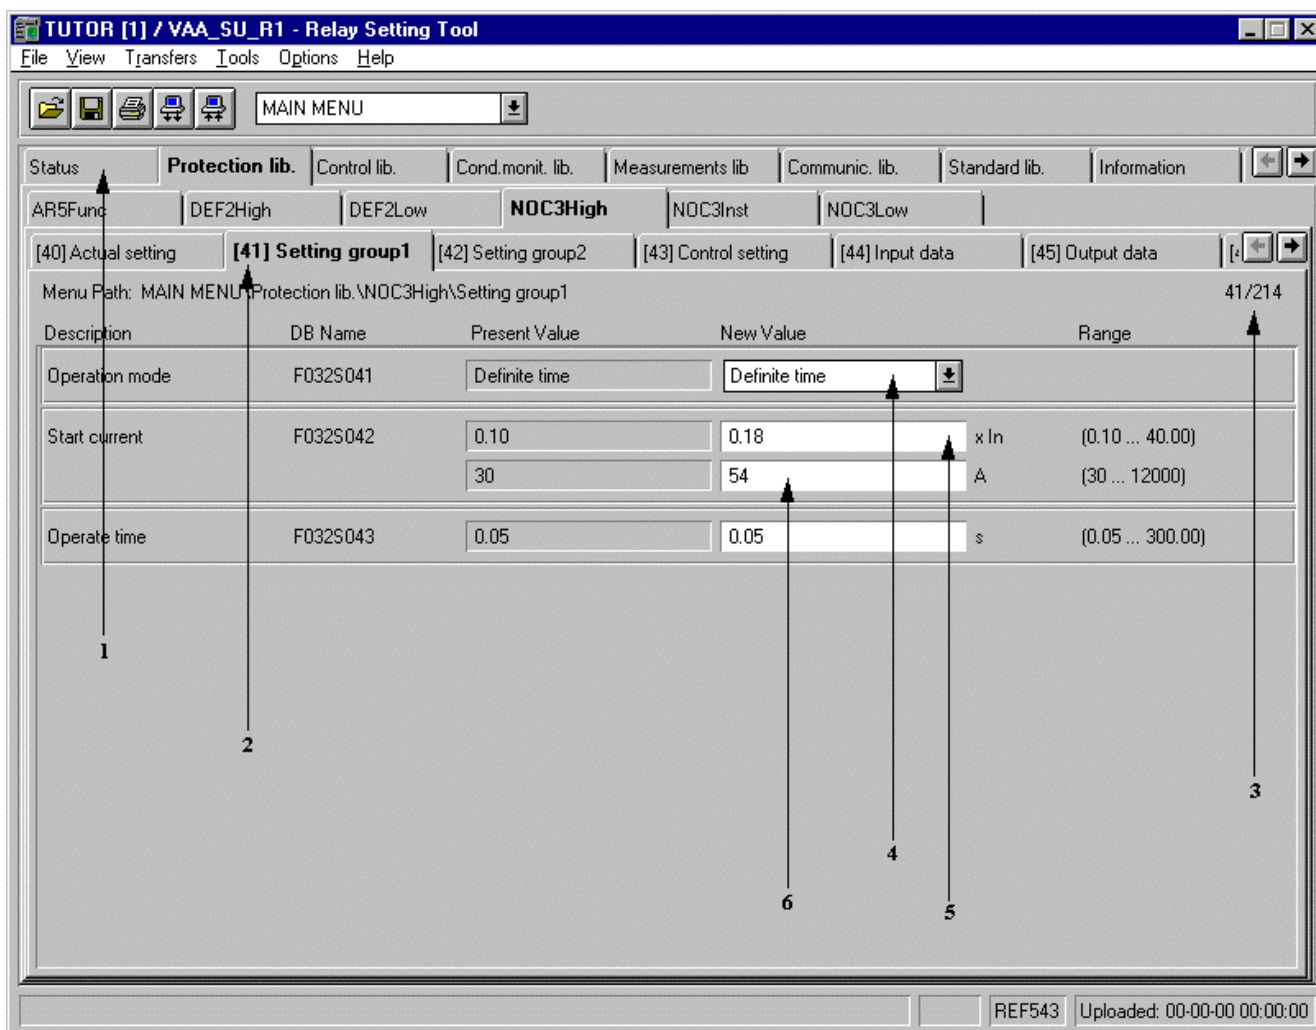
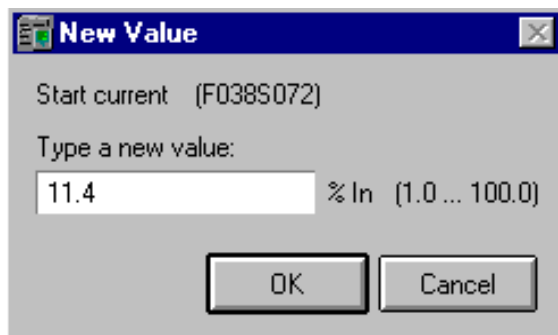

Figure 53. Relay Setting Tool Main View
Figure 54. The input field of the Setting Tool
View Transducers	Nominal values can be viewed in the View Transducers dialog. These nominal values are used when calculating primary values for certain parameters (Figure 53, note 6). Values are defined in the Object Configuration Tool, please refer to SM/RED Configuration Manual (1MRS751392-MEN).
When a menu from the Relay Setting Tool is selected, a menu hierarchy of the functions (Figure 53, note 1) available for the relay unit is displayed in the tool area. Each function holds several tabbed pages of configurable parameters.
The Relay Setting Tool Main View contains tabbed pages. The hierarchy and the number of these tabbed pages depends on the selected relay. A tabbed page can be selected by clicking the wanted page with the mouse, e.g. page 41 (see note 2 in Figure 53). Note 3 in Figure 53 indicates the last page (214).
If there are multiple choices, the suitable alternative can be selected from the drop-down combo box (see note 4 in Figure 53). If the relay unit is protected by a password, the password is asked before the changes are downloaded. The dialog in which a new value can be entered (Figure 54) can be brought out by pressing the left mouse button on the field (note 5 in Figure 53) and by pressing any key.
- Note 4 in Figure 53: The value changes color when selected. A suitable alternative can be selected in the drop-down combo box.
- Note 5 in Figure 53: The dialog presenting possible alternatives for the new value.
- Note 6 in Figure 53: Primary value. Whether this is in use or not is defined in the Object Configuration Tool.